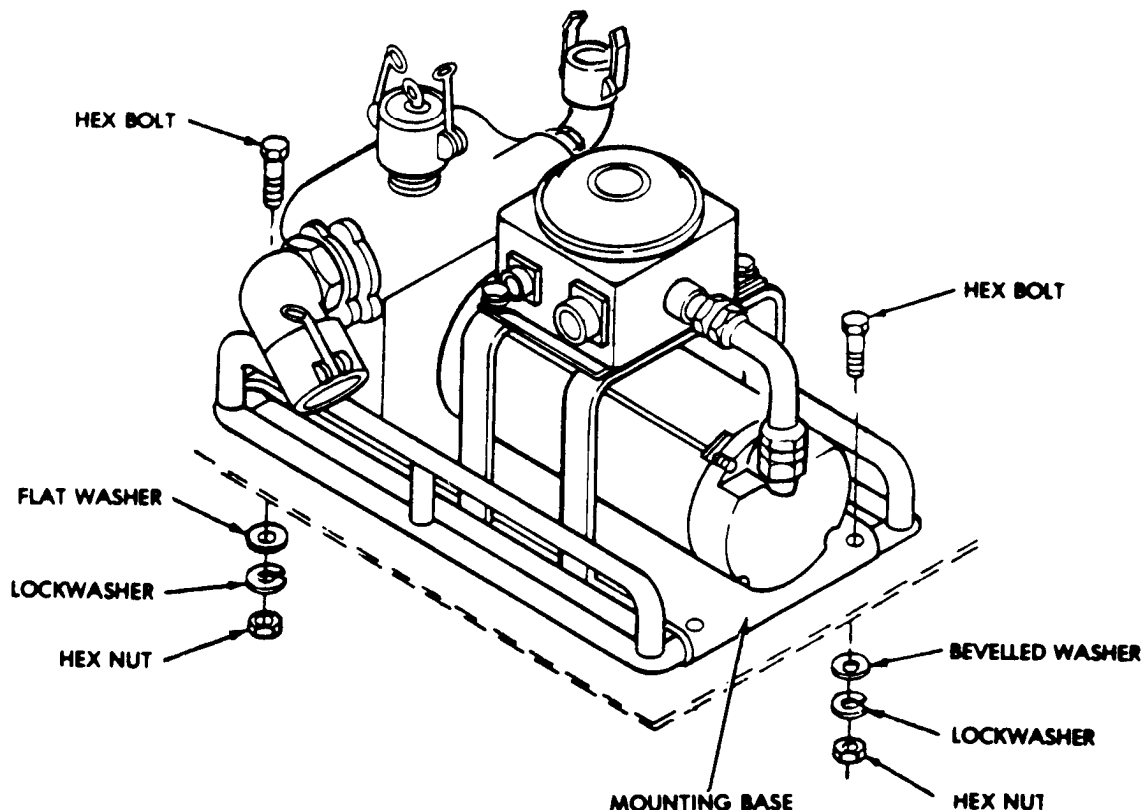

Figure 4-18.1. Pump and Electric Motor Assembly.
(5) Remove pump assembly base plate (figure 4-18.1) from A-frame by removing four screws, four lockwashers, four flatwashers and four nuts.
(6) Remove pump drain plug and drain pump volute.
(7) Lift pump assembly with base from frame.
(1) Install the pump and motor unit on the mounting base (figure 4-18.1) and secure the mounting brackets to the base with four screws, lockwashers, flat washers and nuts.
(2) Ensure that the drain plug is installed in the pump and tightened.
(3) Install the manifold-to-pump inlet hose on the pump inlet and secure by pushing in on the cam arms.
(4) Position the pump assembly on the frame and secure with four screws, four lockwashers, four flat washers, and four nuts.
(5) Install other end of manifold-to-pump inlet hose on the manifold coupling and secure by pushing in on cam arms.
(6) Install filter/separator-to-pump outlet hose on couplings and secure by pushing in on cam arms.
(7) Close drain cock on filter/separator.
(8) Turn lock on vent valve to close position.
(9) Open dispensing valves on tanks.